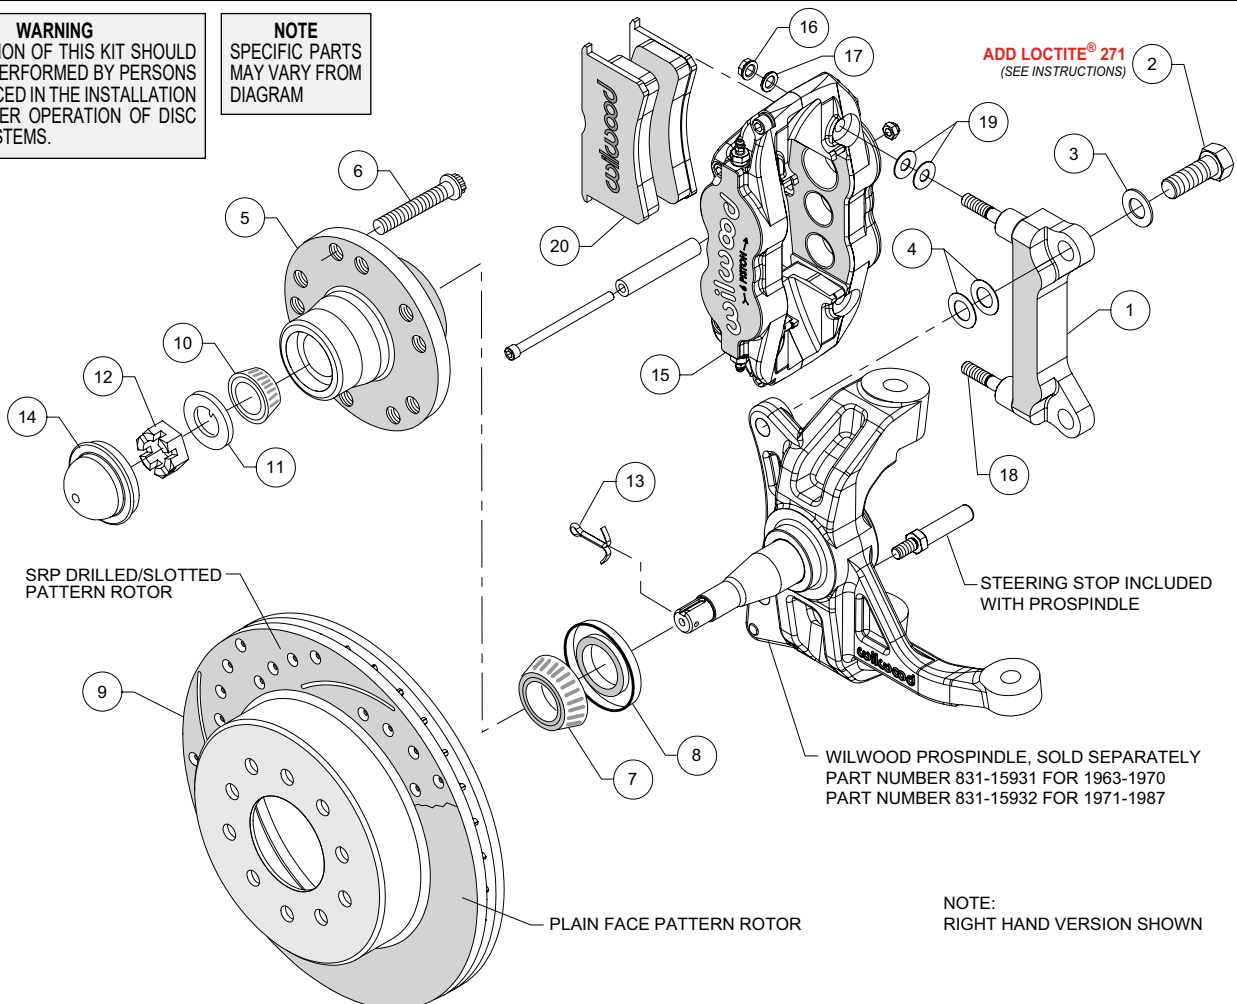

Figure 1. Typical Installation Configuration
NOTE: Numbers in parenthesis refer to the parts list and Figure 1 on the preceding pages.
- Install the steering stop bolt (included with the ProSpindle) into the spindle as shown in Figure 1 and Photo 1. Torque to 25 ft-lbs.
- The caliper mount bracket (1) should initially be installed with clean, dry threads on the mounting bolts. Orient the bracket, as shown in Figure 1 and Photo 2, and install using bolts (2) and washers (3). Initially place two .024" thick shim (4) on each bolt between the bracket and spindle, Figure 1. Temporarily tighten the mounting bolts. **NOTE:** The bracket must fit squarely against the mount bosses on the spindle. Inspect for interference from casting irregularities, machining ridges, burrs, etc. Later, after the caliper alignment has been checked, the mount bolts will be secured using red Loctite® 271.
- Install wheel studs (6) into the hub (5), Photo 3. Torque to 77 ft-lb. **NOTE:** There are two five lug patterns in the hub (5 x 4.75 and 5 x 5.00). Ensure the correct hub stud pattern is being used to fit the wheel application.
- Pack the large inner bearing cone (7) with high temperature disc brake bearing grease (available from your local auto parts store) and install into the backside of the hub (5), Photo 4.
- Install the grease seal (8) by pressing into the backside of the hub (5), flush with the end of the hub, Photo 5.
- Pack the small outer bearing cone (10) with high temperature disc brake bearing grease and install into hub (5). Slide the hub assembly onto the spindle. Secure using spindle washer (11) and spindle nut (12), Photo 6. Adjust bearings per OEM specifications. Install a new cotter pin (13).
- Press the dust cap (14) into the hub (5). **NOTE:** Do not hammer center of cap. Install using outer flange only.
- Slide the hat/rotor (9) onto the hub (5), Photo 7. **NOTE:** The hat must fit flush against the hub face or excessive rotor run out may result. Install three lug nuts (finger tight) to keep the hat/rotor in place while continuing with the installation.
- NOTE:** This kit contains distinct right and left hand calipers that must be mounted in a specific direction, as described below. Initially place two .035" thick shims (19) on each stud (18) between the caliper and the bracket, as shown in Figure 1 and Photo 8. Mount the caliper (15) onto the bracket (1) using lock nuts (16) and washers (17), Figure 1. Temporarily tighten the lock nuts. Ensure that the caliper is mounted so that the largest pistons are at the rotor exit end of the caliper, in relation to the direction of rotor rotation. View the rotor through the top opening of the caliper. The rotor should be centered in the caliper, Photo 9. If not, adjust by adding or subtracting shims (4) between the bracket and the spindle. Always use the same amount of shims on each of the two mounting bolts. Once the caliper alignment is